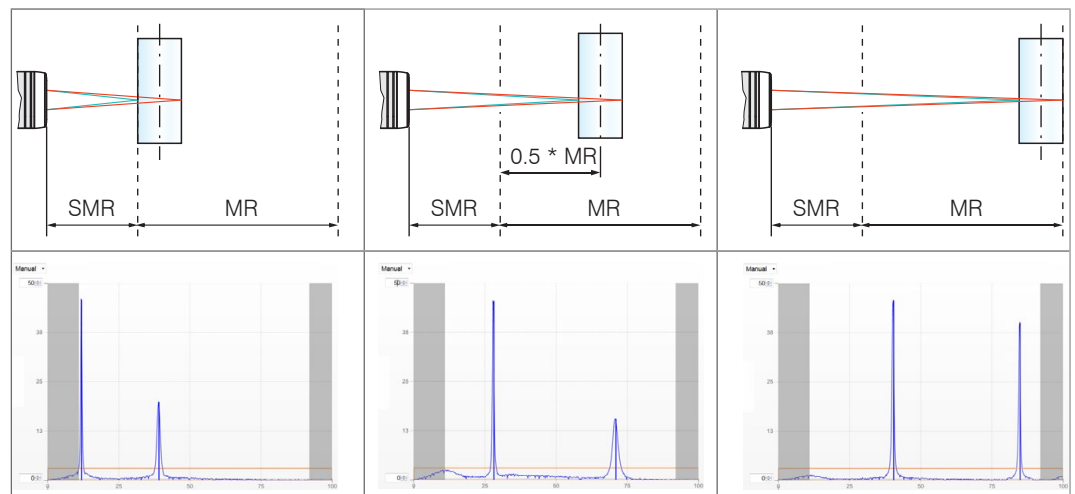

Fig. 60 Video signal at start of measuring range (SMR), midrange (MMR) and end of measuring range (EMR) for determination of refractive indices
- ➡ Move the measuring object with the front edge to start of measuring range, see Fig. 60.